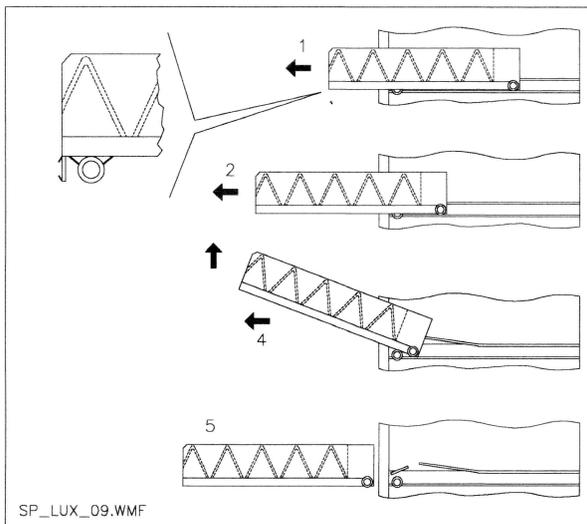
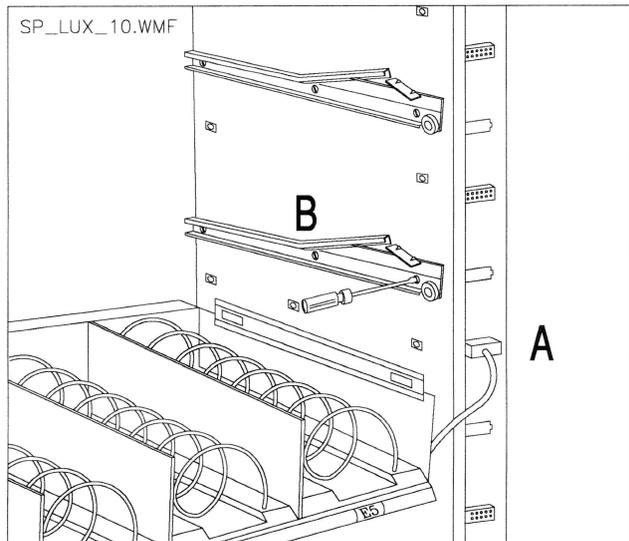

FIG. 9
FIG. 10
### 9.3 PROCEDURE FOR REMOVING THE TRAYS (FIG. 9 - FIG. 10)
- 3) Disconnect the electric connector -A- FIG. 10.
- 5) Pull the tray till the stop, lift it upwards, then rotate it downwards till the guide unhooks. Remove it from the machine FIG. 9.
- 3) Insert the electric connector -A- FIG. 10.
- 4) Displace the guides ref. B FIG. 10 (the last from the bottom is already in the right position and is therefore not to displace).
- 5) Displace the connectors, ref. A FIG. 10, placed on the edge of the cabinet.